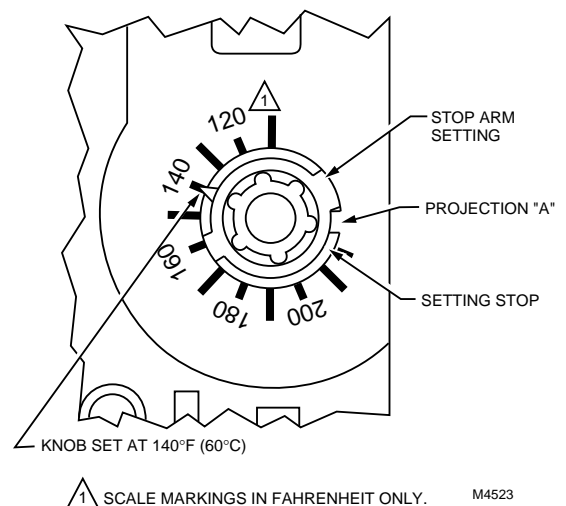

Fig. 21. Setting stop in position to restrict low limit setting to 180°F (82°C) or lower.
2. Place the setting stop over the knob so that the arm of the setting stop (after the stop is pressed into place) strikes projection A and prevents turning the knob beyond the chosen limit setting. See Fig. 21.